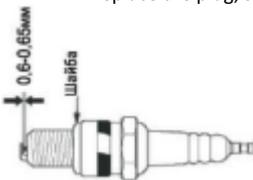

Fig. 11
12. Measure the gap between the electrodes of the plug with a special probe. The gap should be 0.6–0.65 mm (Fig. 11). When increasing or decreasing the desired gap, it is recommended to replace the plug, since adjusting the gap can lead to a change in the quality of sparking.